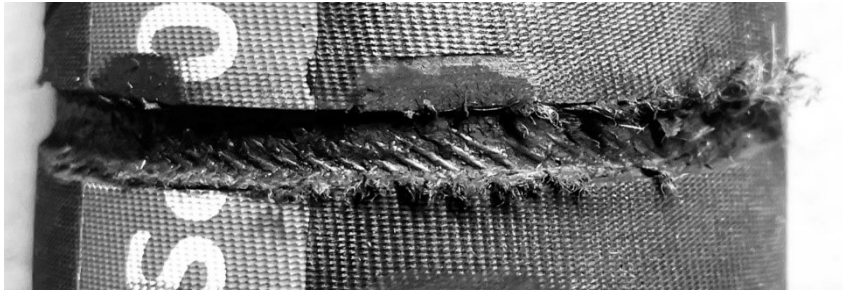

Figure 6.1
- 6.1.2 Inspect blast hose (#3). If the blast hose is frayed, replace the blast hose, or cut back to good hose. (See Figure 6.1)